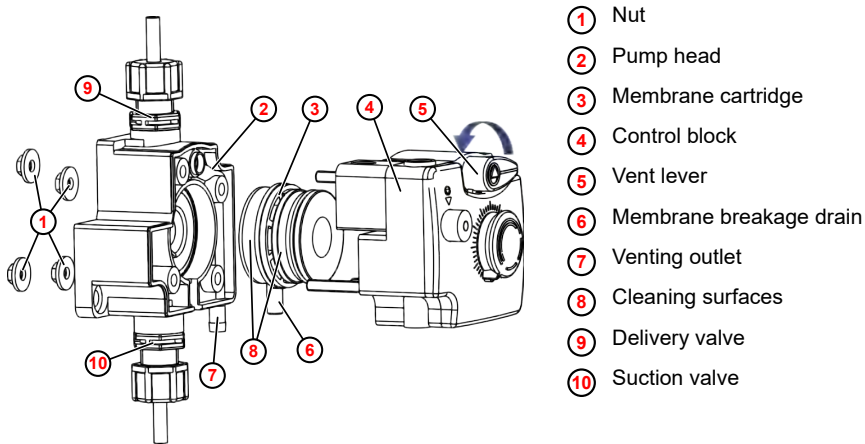

Fig. 20: Replace the pump head
i If vent lever (Fig. 20 , ⑤) is closed but dosing product still escapes from the vent drain (Fig. 20 , ⑦), the vent lever must be adjusted.